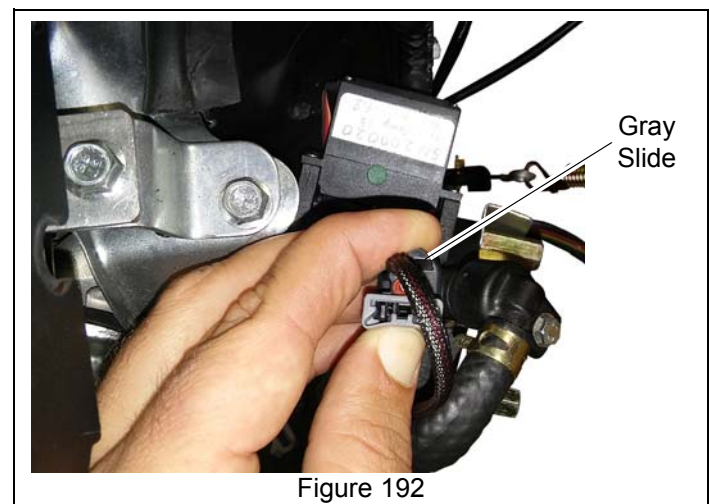

Figure 192
- a. Move gray slide upward until it stops. Gently compress gray slide and remove connector. See Figure 192.